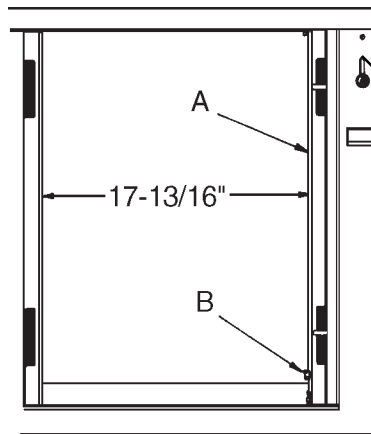

Figure 5. Support Panel
6. The Drawer Support Panel (*Figure 5. Item A*) has four wing nuts (B) that are used to adjust the spring loaded panel. Adjust these wing nuts as necessary to obtain an approximate measurement of 17-13/16" between the left and right support panels. It is important to measure across all four corners.